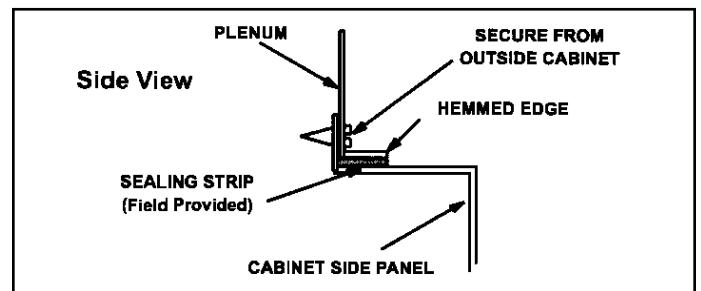

Figure 10.
1. Bottom edge of plenum should be flanged with a hemmed edge. See Figure 10.